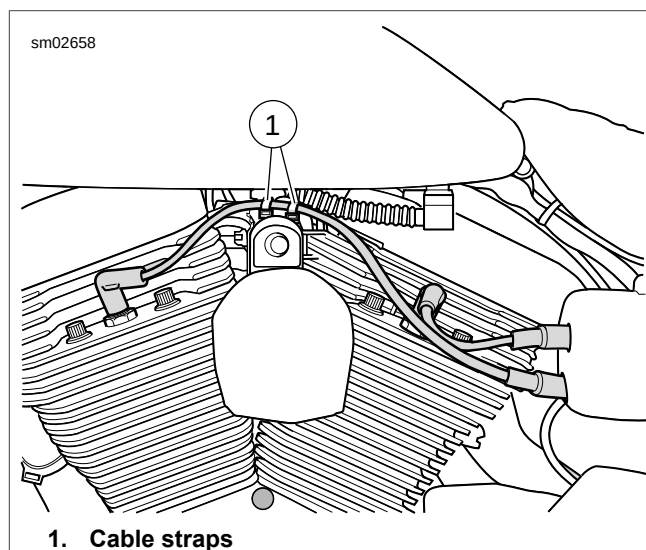
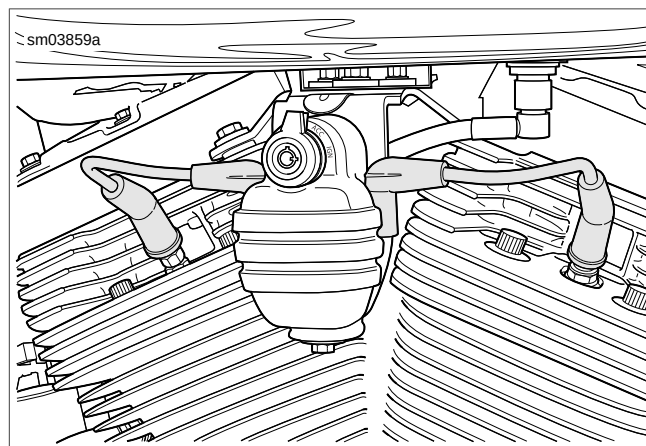

Figure 7-77. Spark Plug Cable Routing (All Except FXS/B)
Figure 7-78. Spark Plug Cable Routing (FXS/B)
2. **All but FXS/B:** see Figure 7-77. Remove cable straps on horn bracket for front spark plug cable.
1. See Figure 7-77 (all but FXS) or Figure 7-78 (FXS). Connect spark plug cables to ignition coil and spark plugs. Fasten boots/caps securely. Tight connections provide the necessary moisture-proof environment for the ignition coil and spark plug terminals.